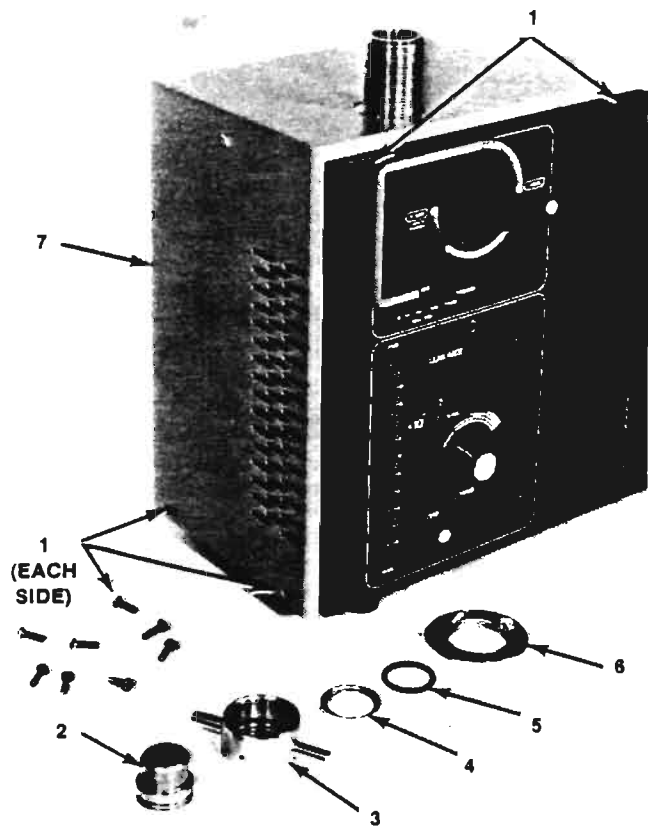
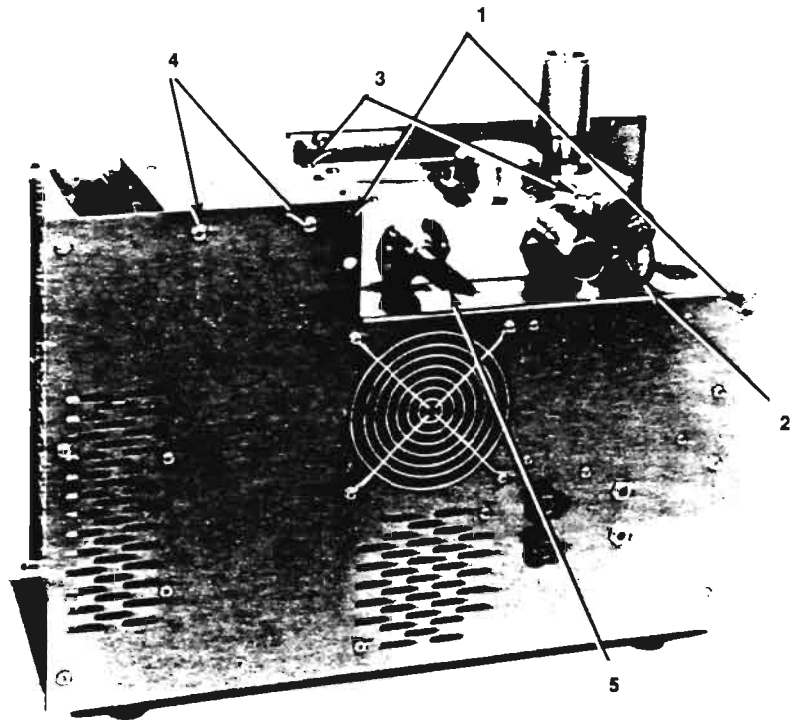
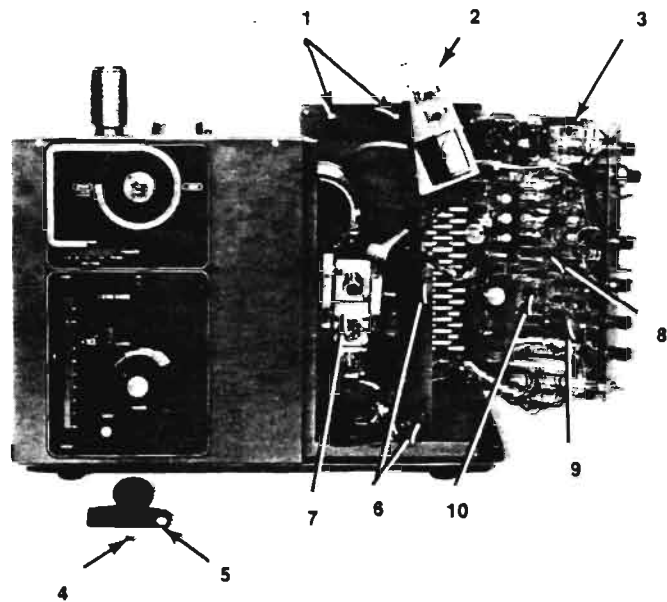
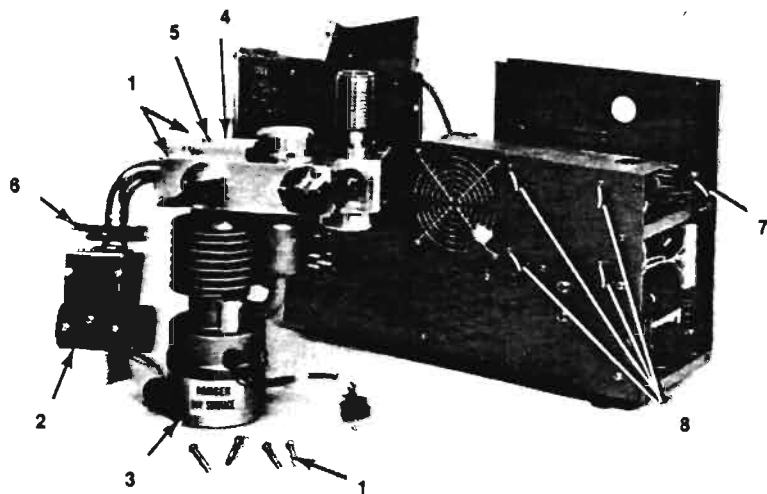

Fig. 4-2. Test Port Components Removed
Fig. 4-3. Rear View of Leak Detector, Cover Removed
Fig. 4-4. Leak Detector With Cover Removed and Main Electronics Assembly Swung Open
Fig. 4-5. Valve Block, Diffusion Pump, and Spectrometer Tube Removed From Cabinet
8. Remove test port cap (3, Fig. 4-2), O-ring, (5), O-ring follower (14), and test port nut (6).
9. Remove eight screws (1, Fig. 4-2) and (1, Fig. 4-3) that hold cover assembly (7, Fig. 4-2) to chassis and front panel. Slide cover assembly up and off unit.
10. Remove operating handle (5, Fig. 4-4) after first removing screw (4).
1. Remove two screws (6, Fig. 4-4) and swing main electronics assembly (3) all the way to the right.
2. Remove two screws (4, Fig. 4-3) behind high voltage enclosure (2, Fig. 4-4) and then swing enclosure clockwise (upward) to the 90-degree position.
3. Remove three electrical plugs at top of spectrometer tube (7). Then unplug the spectrometer tube heater.
5. Remove four screws (3, Fig. 4-3) at corners of valve block. (Screws are #10-32 x 2½" long.)
6. Disconnect thermocouple gauge electrical cord (2).
7. With front panel pulled forward, lift valve block assembly out of leak detector, with diffusion pump and spectrometer tube intact (Fig. 4-5). Take care not to hit any electrical components, and be especially careful of the diffusion pump thermostat.
8. Disconnect diffusion pump (3) from valve block assembly (4) by removing three 2-inch long screws (5).
9. Disconnect spectrometer tube by removing KF flange (6). You now have three separate assemblies: valve block, diffusion pump, and spectrometer tube.
1. Reconnect diffusion pump to valve block assembly, using three 2½" long screws (5, Fig. 4-5).
3. Bolt valve block assembly to cabinet, using four 2½" long screws (3, Fig. 4-3).
9. Swing high-voltage enclosure (2, Fig. 4-4) downward, then secure with two screws (1).
10. Swing the main electronics assembly (3, Fig. 4-4) inward and secure with two screws (6).
11. Attach cover assembly to chassis and front panel, using eight screws (1, Fig. 4-2).